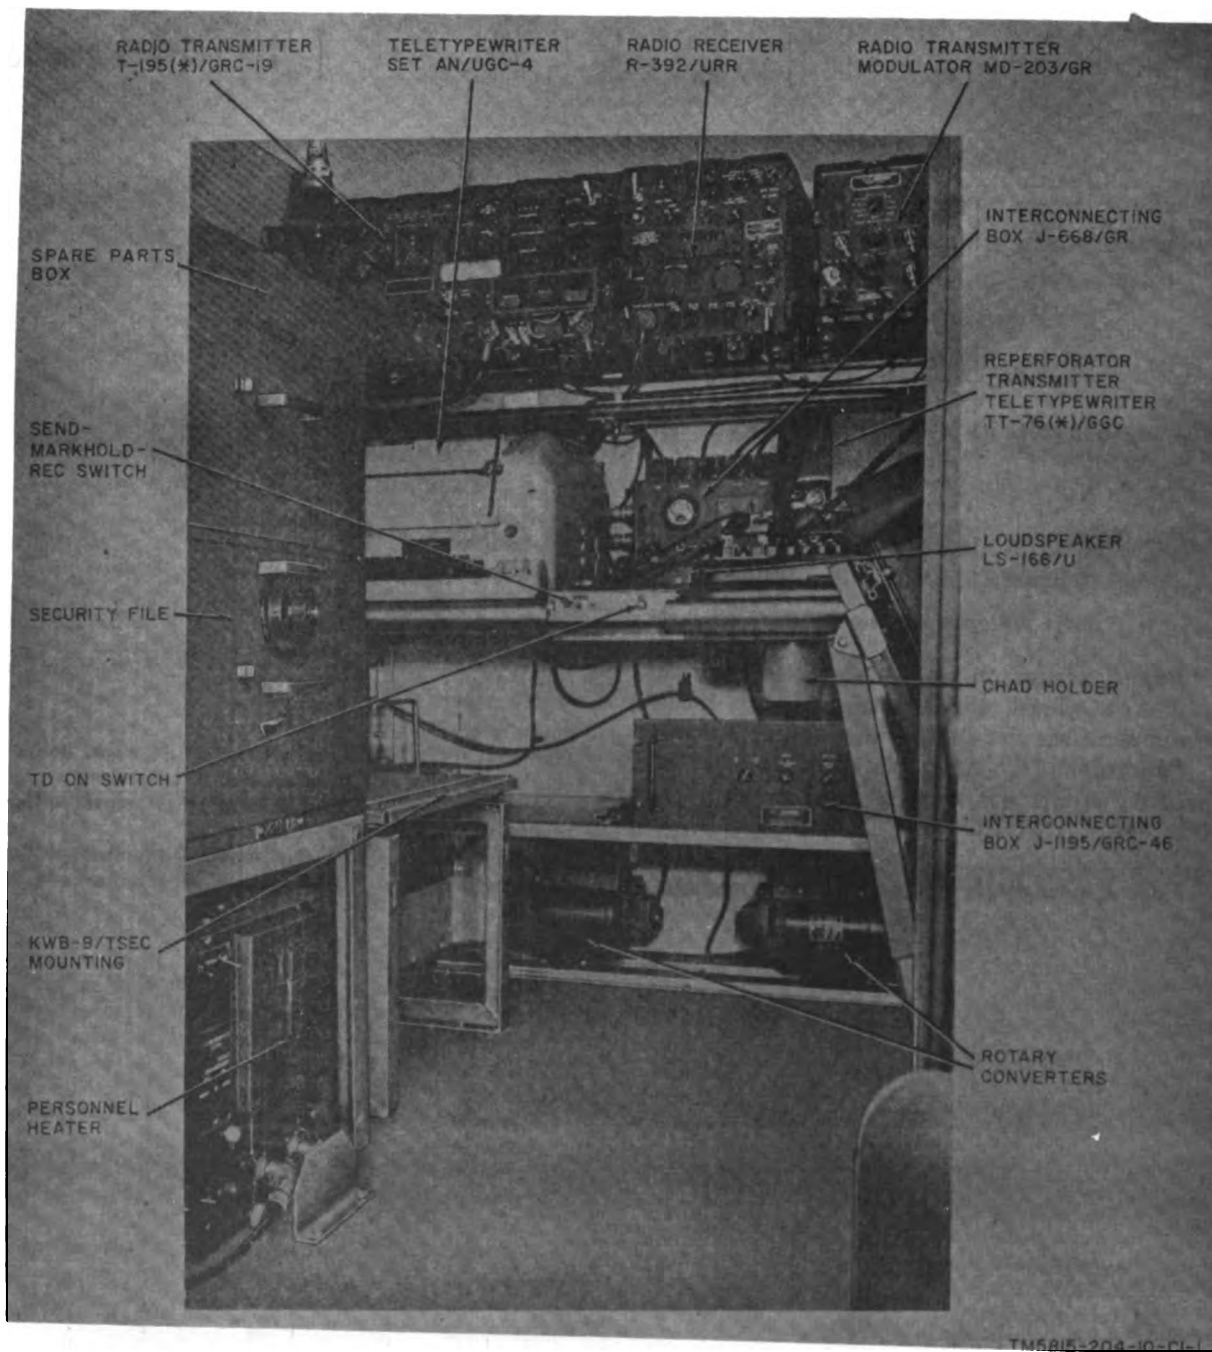

Figure 1.1. (Added) *Radio Teletypewriter Set AN/GRC-46B, interior view, major components installed.*
a.1. In the S-144/G, a metal file cabinet with two drawers is mounted on the rack above the heater (fig. 1.1). The lower file drawer has a combination lock and is the security file; the upper drawer is the spare parts box. The KWB-9/TSEC security equipment is mounted on a rack next to the file cabinet. The top frame of the rack is shock mounted. A plate, which is fastened to the KWB-9/TSEC security equipment, is secured to the top of the rack with four ¼-turn wing-type fasteners for quick removal.
(fig. 1.1, 4.1)